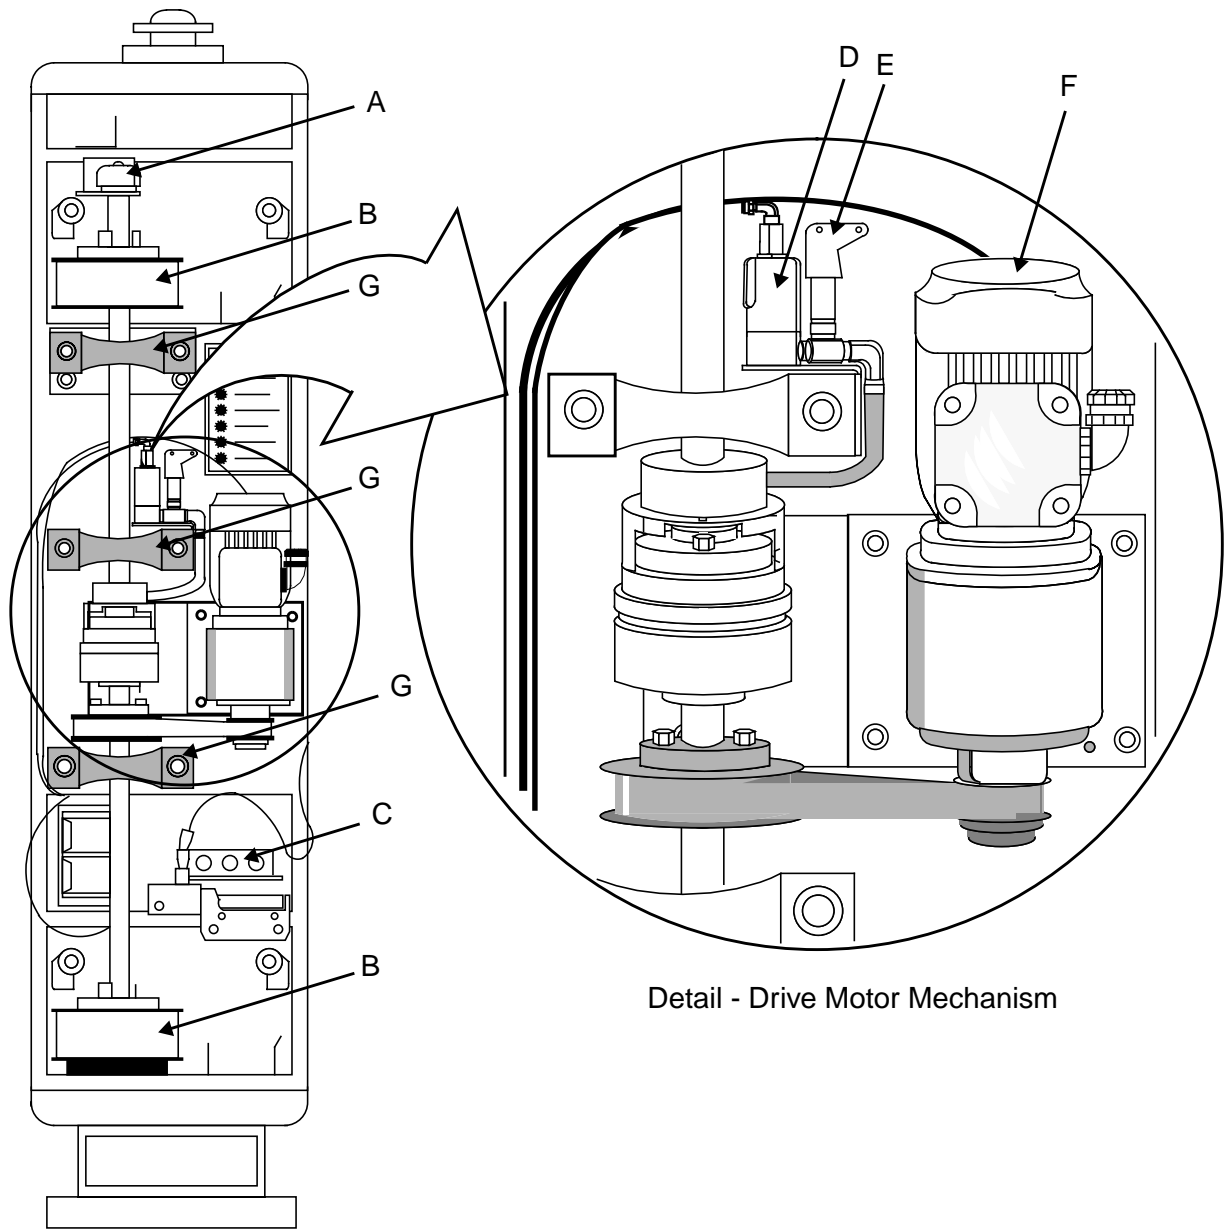

Figure 10-19 Drive End Column Parts
Complete the following procedure to replace the Encoder. Refer to Figure 10-19 on page 229.
- Figure 10-19 on page 229